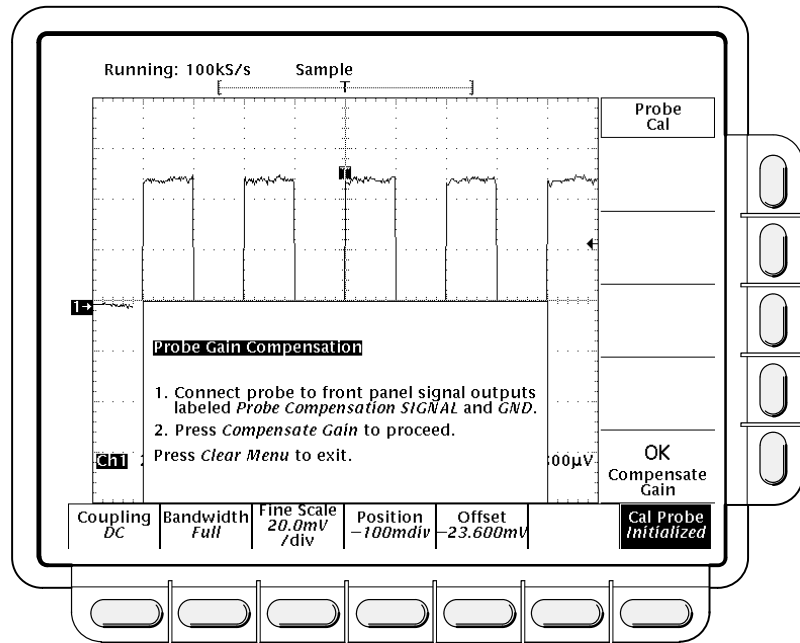

Figure 3-39: Probe Cal Menu and Gain Compensation Display
Your oscilloscope will detect the type of probe you have installed and display screen messages and menu choices for compensation of probe gain, offset, or both (see Figure 3-39). The following steps will have you run probe gain, offset, or both depending on the probe the oscilloscope detects.
18. After the clock icon is removed, verify the word **Initialized** changed to **Pass** under **Cal Probe** in the main menu. (See Figure 3-39.)